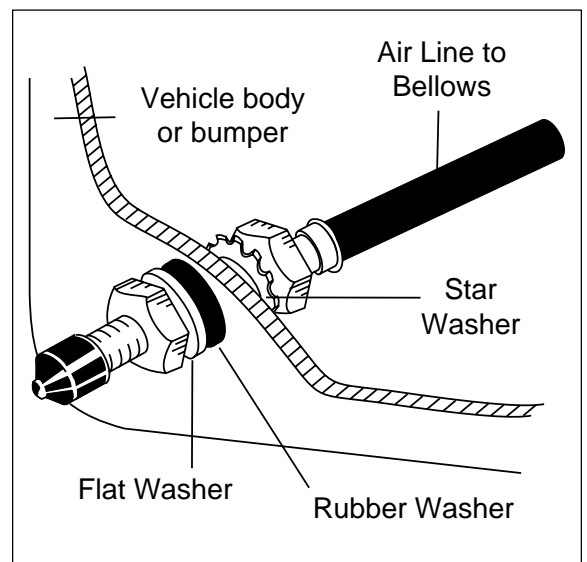

Figure 7
7. Drill two $\frac{5}{16}$ " holes, and install inflation valves, nuts, and washers as shown in Figure 7.